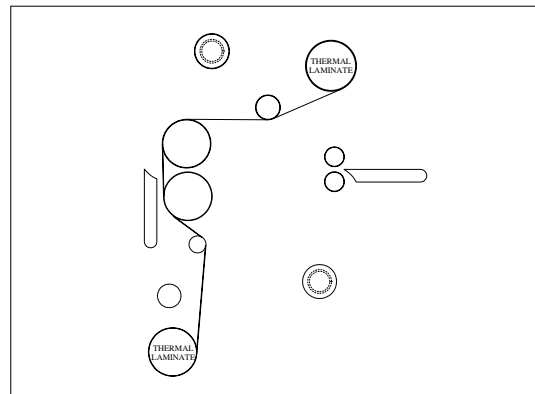

Figure 20
5. Pull the lower film behind the lower idler bar, Lower the table, Pull Film up towards the film draped over the top heat roller and adhere the lower film to the upper Film (Fig. 20).